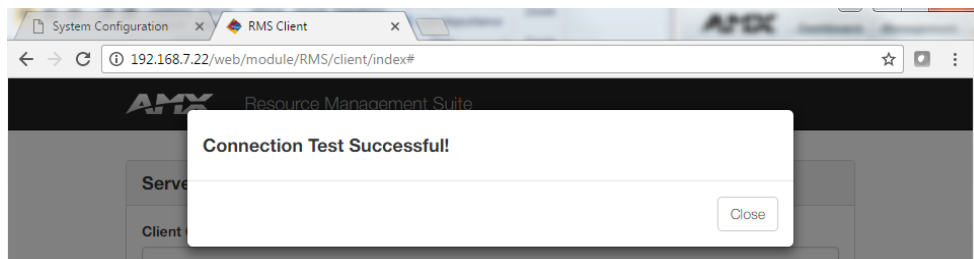

FIG. 483 NX Master -Connection Test Successful
- You should get the following message indicating that the HTTPS connection is successful (FIG. 483):